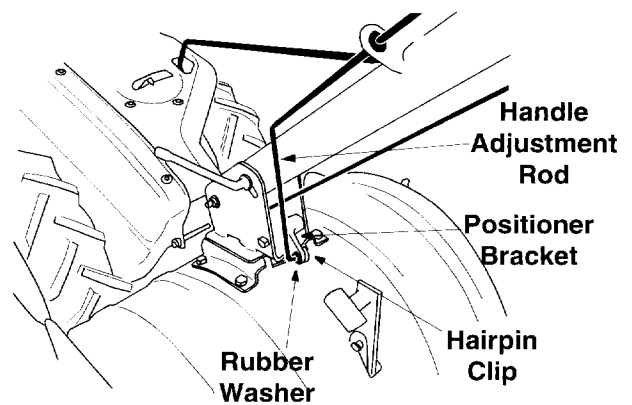

Figure 9
2. Slide the rubber washer on the unthreaded end of the handle adjustment rod. Insert the end of the handle adjustment rod into the positioner bracket beneath the handle, on top of the tine shield. See Figure 9. Secure with hairpin clip.